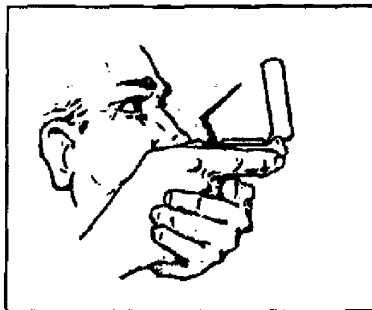

Figure C-21 Compass-to-cheek method
(1) Compass-to-cheek method (figure C-21). To use this method—